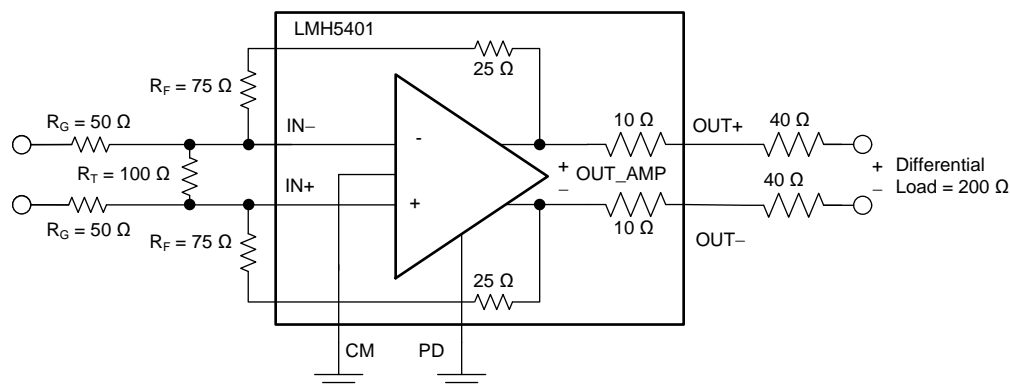

Figure 63. Differential Stability
Two types of gain are associated with amplifiers: noise and signal gain. Noise gain (NG) is what is used to best determine the stability of an amplifier. The noise gain is the inverse of the voltage divider from the outputs back to the differential inputs. This gain is calculated by $NG = (R_F / R_{IN}) + 1$. For the LMH5401, NG values greater than three creates a stable circuit independent on how the signal gain is set. In Figure 63, for optimal performance choose R_F within the values noted in this document (see the Parameter Measurement Information section for further information). Using too large of a resistance in the feedback path adds noise and can possibly have a negative affect on bandwidth, depending on the parasitic capacitance of the board; too low of a resistance can load the output, thus affecting distortion performance. When low gain stability is required, alter the noise gain by adding a *dummy* resistor (that is, R_T in the differential configuration of Figure 63). By manipulating the noise gain with this addition, the amplifier can be stabilized without affecting signal gain. Evaluate the system at lower signal gains (G less than or equal to 2) if SNR can be tolerated with the higher noise gain configuration. In Figure 63, R_S and R_T in parallel combination affects the noise gain of the amplifier. R_G and R_F are the main gain-setting resistors and the addition of R_T adjusts the noise gain for stability. Much of this stability can be simulated using the LMH5401 TINA model, depending on the amplifier configuration. The example in Figure 63 (listed in row 1 of Table 1) uses the LMH5401, a signal gain of two, and a noise gain of five.